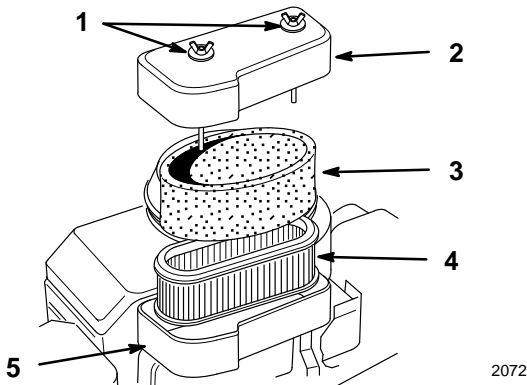

Figure 17
2. Clean around the air cleaner to prevent dirt from getting into the engine and causing damage. Unscrew the cover nuts and remove the air cleaner cover (Fig. 17).
3. Remove the air cleaner assembly (Fig. 17).
4. Carefully slide the foam element off the paper element (Fig. 17).
1. Carefully slide the foam element onto the paper air cleaner element (Fig. 17).
2. Place the air cleaner assembly onto the air cleaner base (Fig. 17).
3. Install the air cleaner cover and secure with cover nuts (Fig. 17).